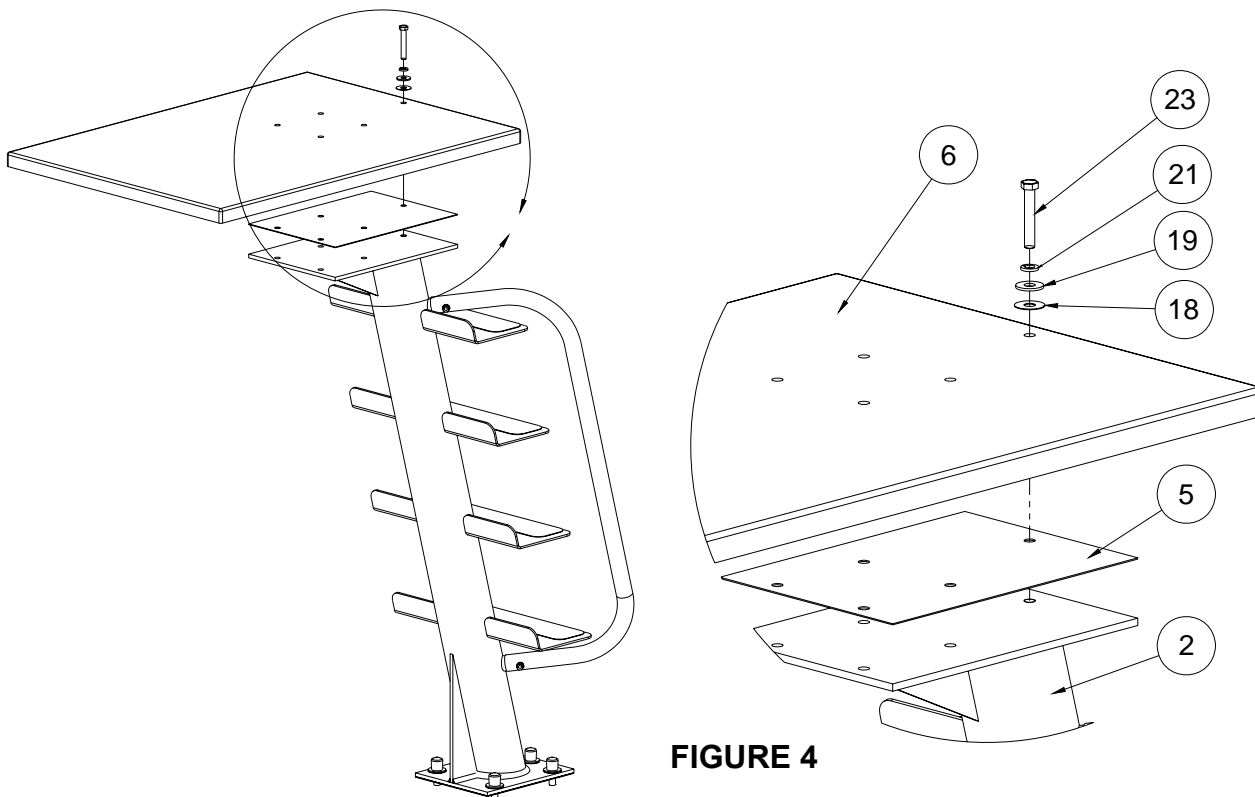

FIGURE 4
5. Locate **Gasket (item 5)** and place on top of post assembly, orienting hole patterns to match. Place **Footboard (item 6)** on top of gasket and orient holes to align. Place **Nylon Flat Washer (item 18)** on top of footboard located over hole. See **FIGURE 4** below. Place **1/2" Flat Washer (item 19)** and **1/2" Lock Washer (item 21)** over nylon flat washer. Secure gasket, footboard and washers with **1/2" X 3" Hex Bolt (item 23)**. Do not tighten hex bolt at this time.